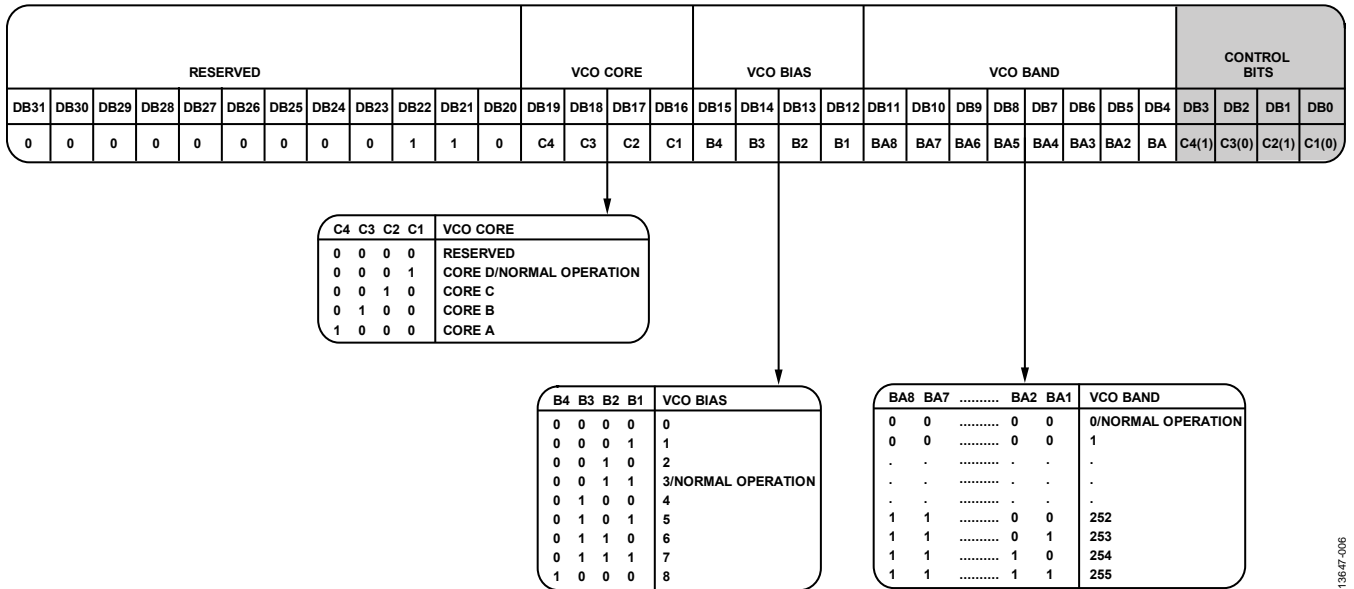

Figure 6. Register 11
3. Load R11 with the desired VCO core, VCO band, and VCO bias setting as defined in Figure 6. Note that the VCO core bits are different for read and write.